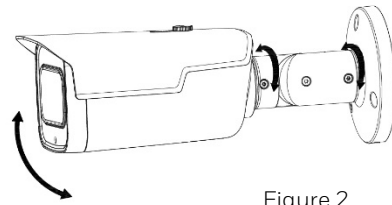

Figure 2
5. Using the supplied Allen key, loosen the locking screws on the mounting bracket arm, point the camera in the desired direction by rotating the camera body and mounting bracket arm, then tighten the screws (refer to Figure 2).